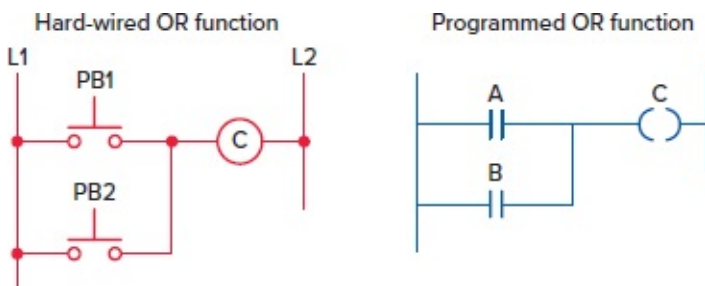

Figure 9-62 Hard-wired circuit and the equivalent PLC logic program for an OR logic control function.
Figure 9-62 shows a hard-wired circuit and the equivalent PLC logic program for an OR logic control function. Either one of the two normally open push buttons (PB1 or PB2) is closed to energize the contactor coil (C). This control logic is implemented in the hard-wired circuit by connecting the two input push buttons in parallel with each other to control the output coil. The PLC program uses the same inputs (PB1 and PB2) and output (C) devices connected to the PLC, but implements the logic via the program rather than the wiring.